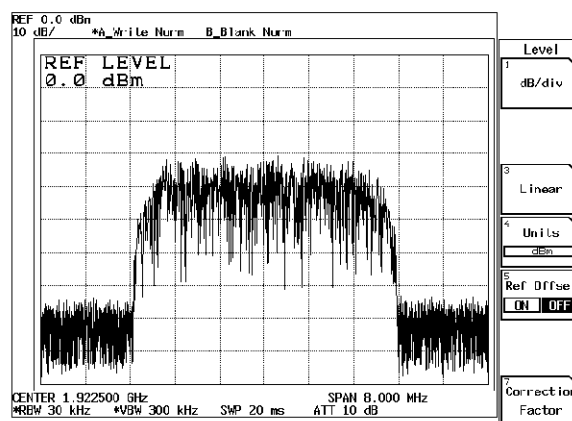

**Figure 2-13 Setup for the measurement of the 3GPP signal**
1. Connect the unit under test as shown in Figure 2-13.